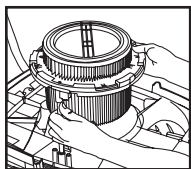

FIGURE 19
26. Remove cover from tank. Turn cover upside down. Hold one rod on the cover and twist the brush to the unlock position until the brush tab is removed from the rod. Repeat for the second rod and brush tab. The brush is now disengaged from the rods. **FIGURE 19.**